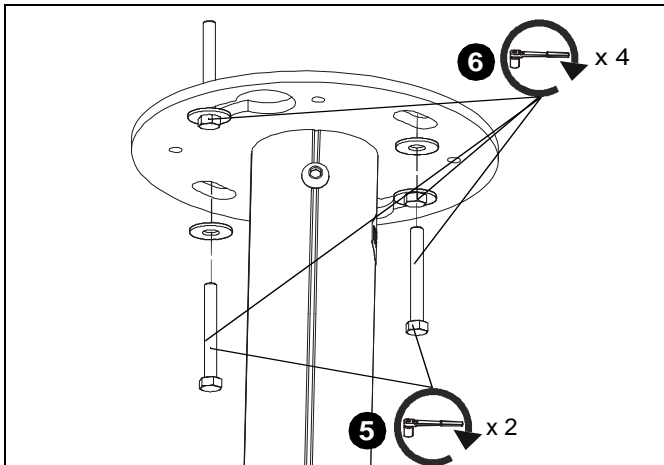

Figure 5
5. Install two 5/16" x 2-3/4" (minimum) lag screws (not included) through holes on ceiling plate (A) and into holes drilled in wood stud cross bracing. (See Figure 5)
6. Tighten all four lag screws to secure plate to ceiling. (See Figure 5)